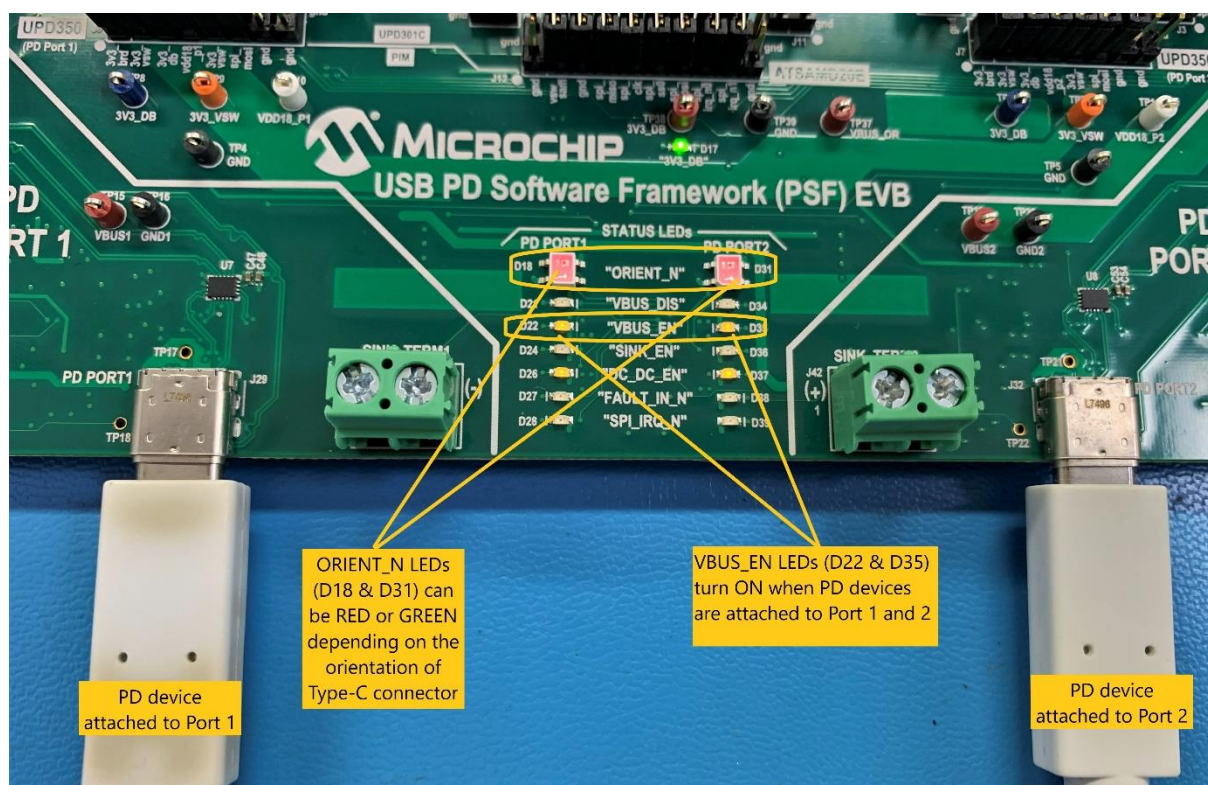

Fig 7.2 Status of VBUS\_EN and ORIENT\_N LEDs after device attach
4. Once an explicit power contract negotiation is in place, the device starts charging. VBUS\_EN LED will turn on along with the PDO status LEDs indicating the negotiated voltage as shown in Figure 7.2
5. The status of VBUS\_EN and ORIENT\_N LEDs after attaching a USB PD Capable Phone in Port1 and a USB PD Capable Laptop in Port2 is shown in Figure 7.2